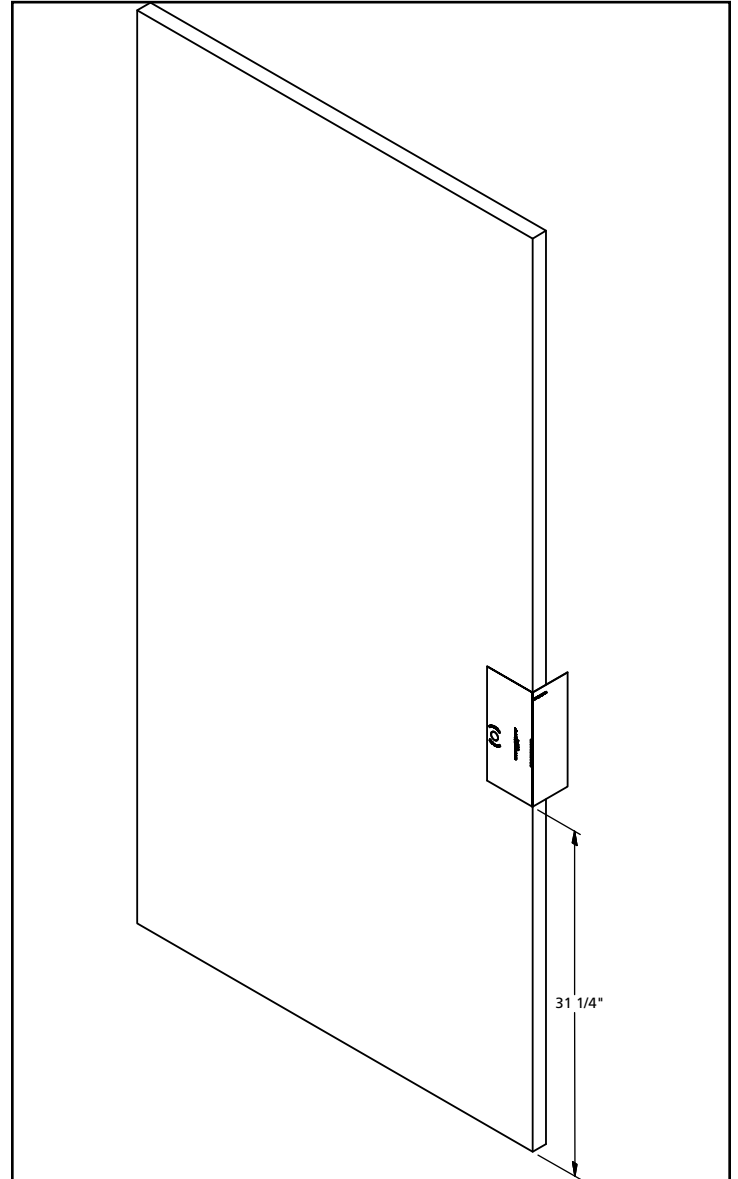

Figure 11. Top Mount Style Finger Pull Drill Guide Placement
Drill out the optional hole for mounting the finger pull to the back face of the door, as shown in Figure 11.
3. Align the drill guide on the back face of the door 31 1/4" from the bottom of the door as shown in Figure 11.